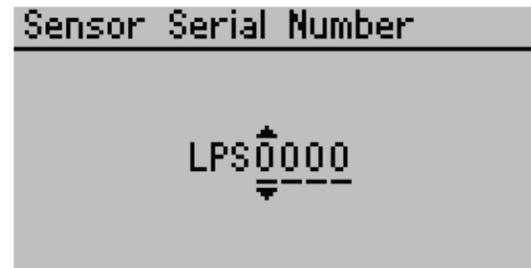

Figure 47 Enter sensor head serial number
10. Enter the sensor head serial number (found on the sensor head cable tag) by pressing the **UP** or **DOWN** keys and pressing **ENTER** after each digit (Figure 47).